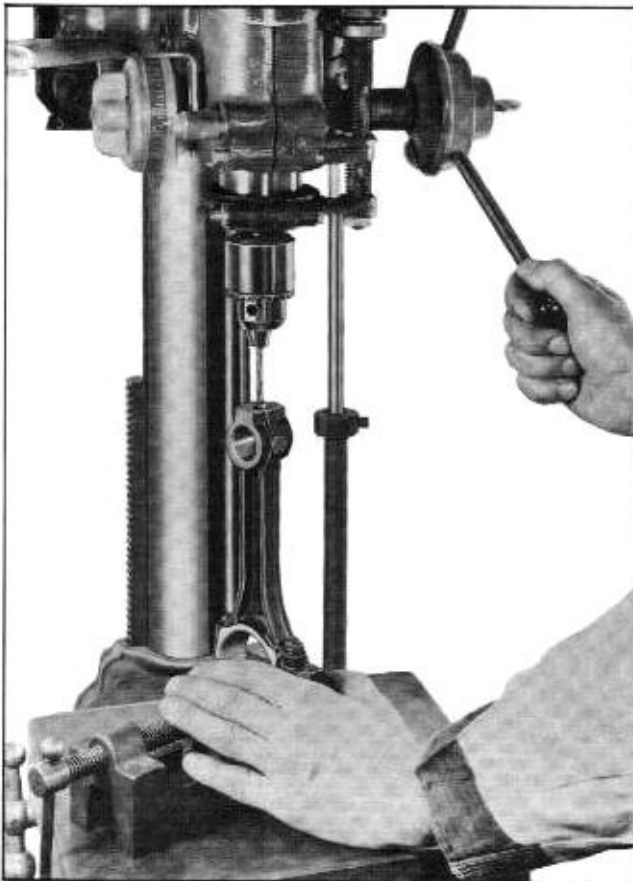

Fig. 6-63 Drilling Oil Hole in Connecting Rod Bushing
3. Drill  $\frac{5}{32}$ " hole in bushing (Fig. 6-63). NOTE: Use care to prevent end of drill from damaging opposite side of bushing.